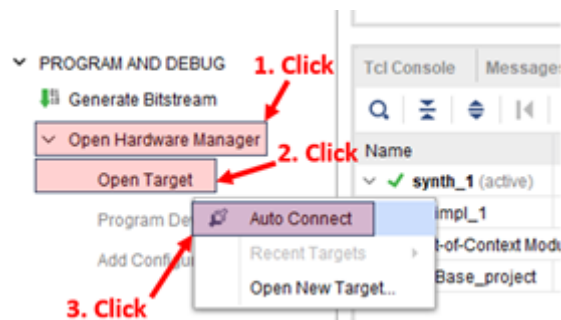

Figure 126: Accessing ILA when debugging.
2. Include the PSCoscilloscope elf file when programming. See details in the figure 126: